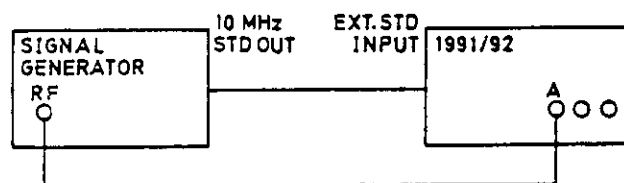

Figure 6.27 - Connections for Channel A Sensitivity PVP (I)
6.9.2.2 Channel A PVP (I)
- Connect the test equipment as shown in Figure 6.27. Check that the EXT STD LED lights